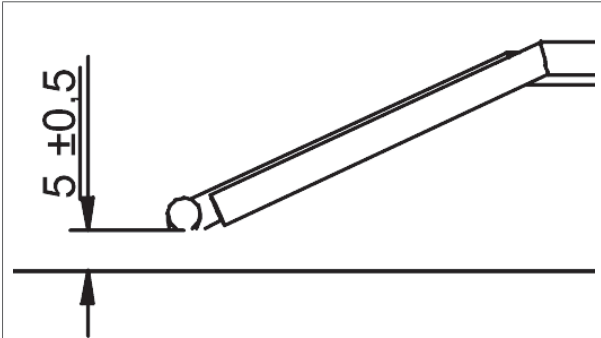

Figure 21 - Distance between the electrode and the burner
- a. The distance between the electrode and the burner should be $5.0 (\pm 0.5)$ mm (figure 21).